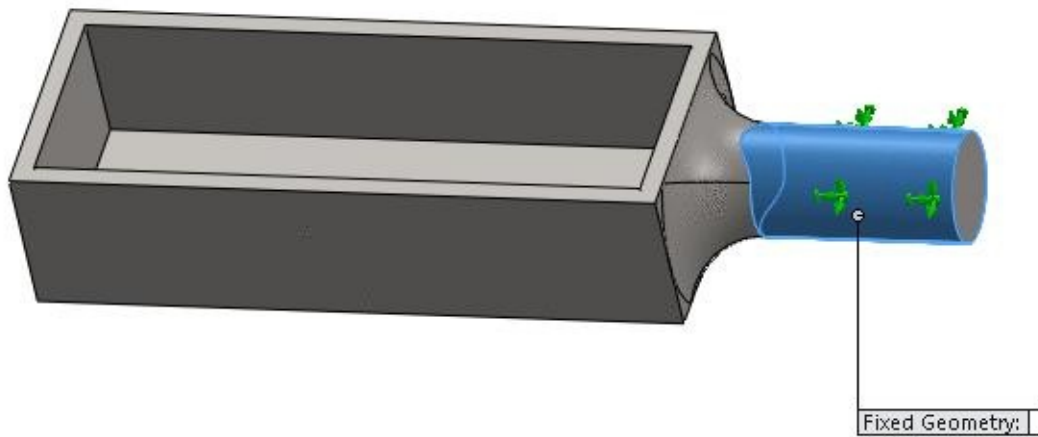

Figure-6. Fixed geometry
- Select the round face of the model to make it fixed; refer to Figure-6.